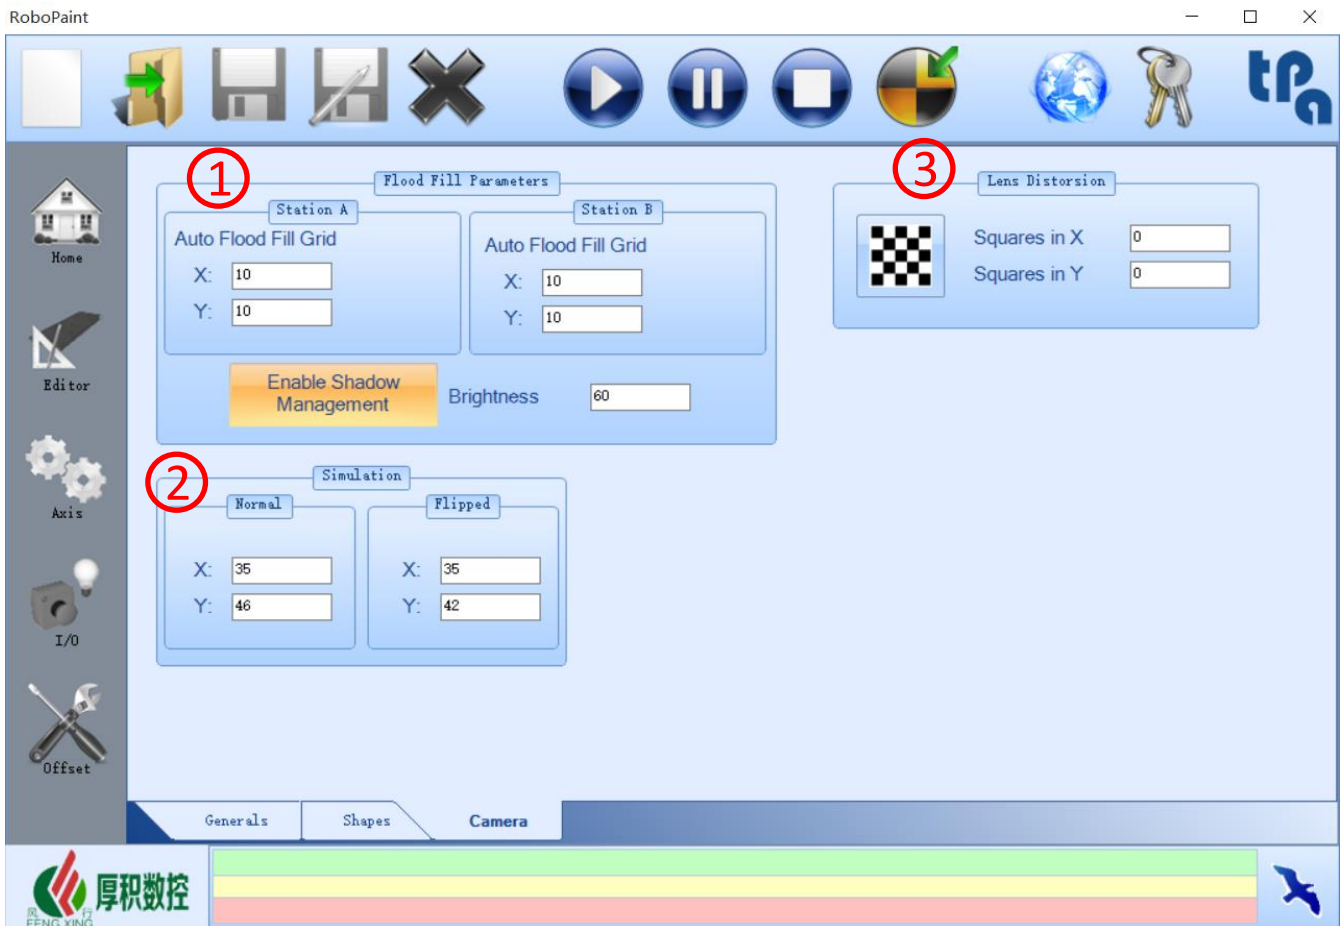

Fig. 17
CAMERA: the following description of the parameters refers to the numbers in Fig.17:
4. FLOOD FILL: after the operation described in point 3, the profile of the piece calculated by the software can be irregular. This function can enhance the precision of the comparison resulting from the analysis of the pixels around a “piece” pixel: if the difference in RGB value is smaller than the one set by the user, the surrounding pixels will be considered as part of the piece as well. The grid used to compare surrounding pixels can be set from the option page as shown in Fig.17.
- “Simulation”: shows the real time movement of the X Y axes of the machine over the piece during the painting process. Simulation parameters can be changed in the camera option page as in Fig.17.